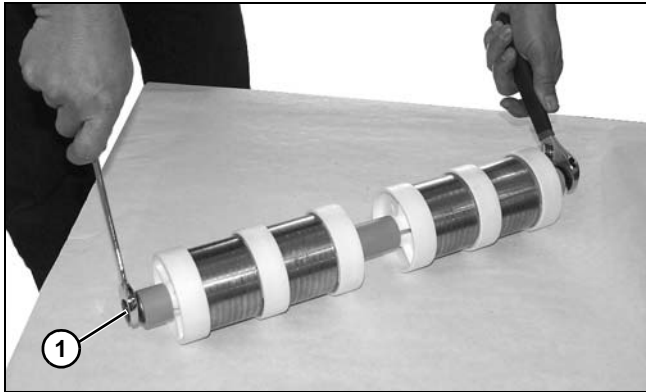

Figure 105
5. Use wrenches to remove both bolts (**Figure 105, item 1**) from each side of roller assembly.